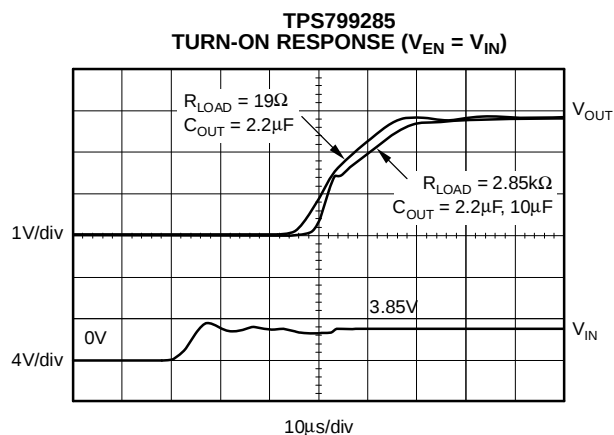
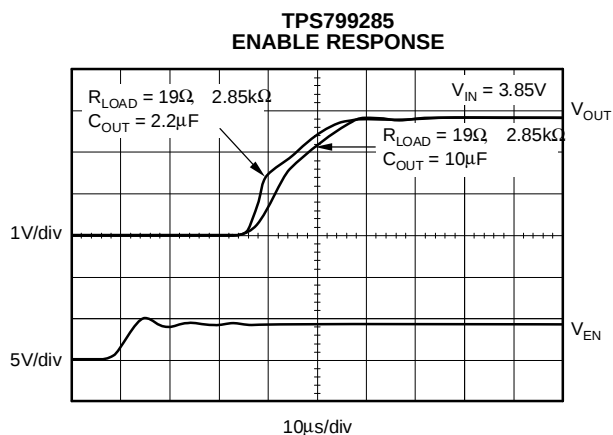

Figure 25.
Figure 26.
Note that for fastest startup, V_{IN} should be applied first, then the enable pin (EN) driven high. If EN is tied to IN, startup will be somewhat slower. Refer to Figure 25 and Figure 26 in the **Typical Characteristics** section. The quick-start switch is closed for approximately 135μs. To ensure that C_{NR} is fully charged during the quick-start time, a 0.01μF or smaller capacitor should be used.